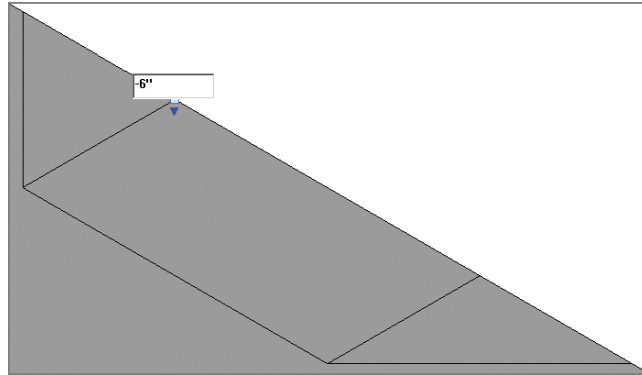

FIGURE 3.10 Editing the shape handle
- Now that you've added the proper locations to break the slope, you need to modify the points at the ends of the lines to change the slope of the floor. Start by returning to your default 3D view. As you hover over the endpoint of the line, Revit Architecture highlights the shape handles. Press the Tab key to highlight a specific handle, and then select it (Figure 3.10).
- Adjust the elevation of the shape handle as shown in Figure 3.10. In this case, you're depressing the floor, so the value must be negative. But you could also increase the elevation in a small area by using a positive value.